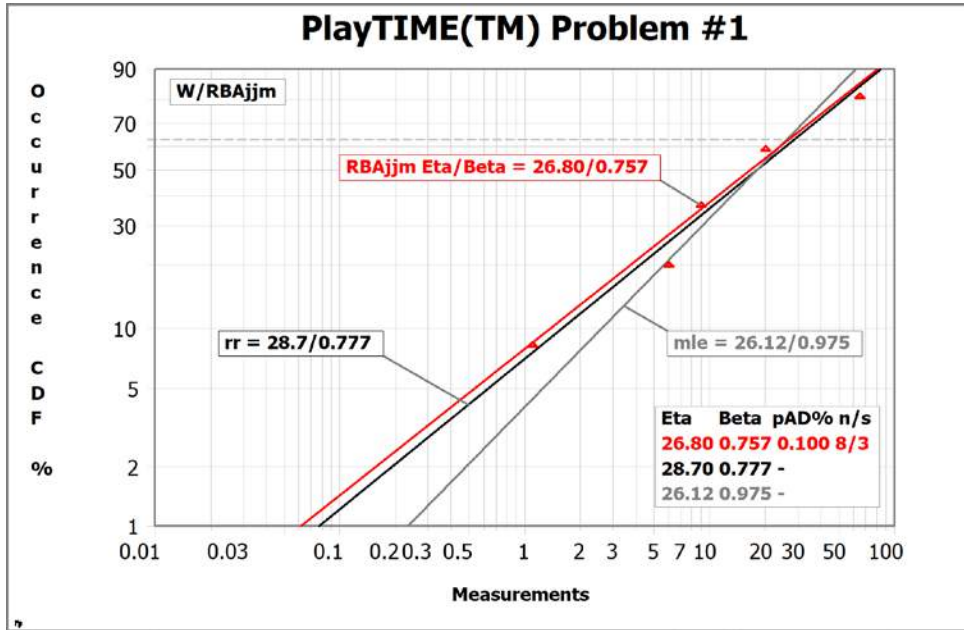

Figure 7: Comparing Rank Regression (rr), Maximum Likelihood Estimate (mle), & mle-RBA (RBAjmm)
- C. From the Main Screen, Home group, select Open/Import, and open the **PlayTIME-Problem-5.w** file. Select the small plot to enlarge, it should look similar to Figure 7, but with only one line plus the data points.
4. Get “RBAjmm” (mmle) solution as follows: From the Main Screen, select Analysis group, Method/Input again, then select the modified maximum likelihood (mmle) icon (showing mle symbol + 2 arrowheads). “RBAjmm” should appear on the plot for solution method. If not, return to Method/Input, select “H...Type Of mle Modified...”, select “1...Weibull...”, then “RBA Mindeguia”. This latest plot (Figure 7) shows RBAjmm fit (**Eta=26.80, Beta=0.757**) agreeing well with Marker Line # 1 (‘rr’).